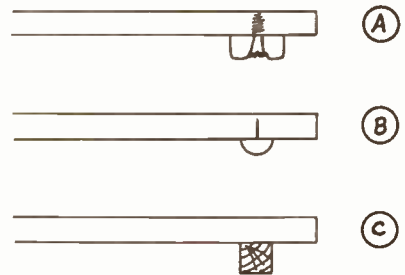

Fig. 3
It is obvious that the board must be slightly raised at the front end in order that the balls will run down to the pockets. This may be done in three ways, as illustrated in Fig. 3. At (A) two small rubber buffers (the type used for W.C. seats) are screwed to the underside of the base. At (B) two rubber (or plastic) headed upholstery tacks are inserted to give the desired slope, whereas at (C) a small section of wood is attached to the underside. The amount of tilt required will depend on individual requirements.